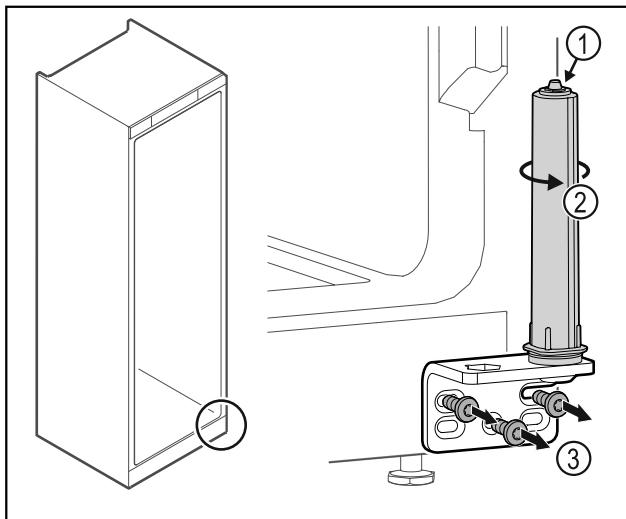

Fig. 21
- ▶ Do not disassemble the door closing system Fig. 21 (1).
- ▶ Turn the closing system Fig. 21 (2) until it clicks.
- ▶ Unscrew the hinge Fig. 21 (3).